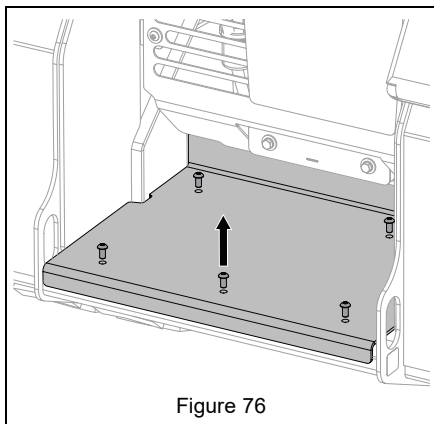

Figure 76
1. Remove five screws from foot pad and remove foot pad. See Figure 76.